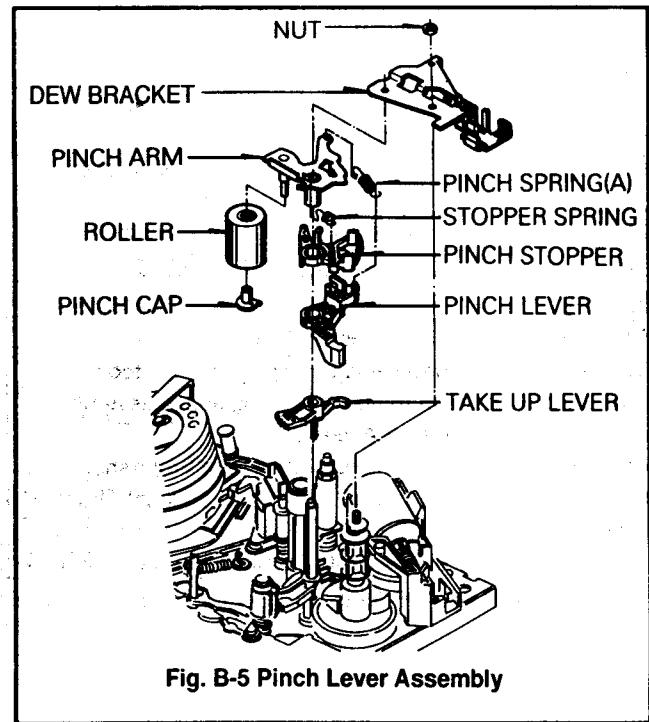

Fig. B-5 Pinch Lever Assembly
- ① First of all, release the spring A/C.
- ② Do not touch the A/C Head Tip with fingers or tools.
- ③ After reinstalling the Audio Control Head Assembly, adjust the Tilt, Azimuth and Height of A/C Head.
**5. Pinch Lever Assembly(Fig. B-5)**
- 2) Remove the Dew Bracket(Fig. B-5).
- 3) Remove the Pinch Lever Assembly(Fig. B-5).
- 5) Remove the Take-Up Lever by pushing the hook(A) outward.
- 2) Remove one Nut(A) and then remove the Dew Bracket (Fig. B-5).
- 3) Remove the Pinch Lever Assembly by lifting it up(Fig. B-5)